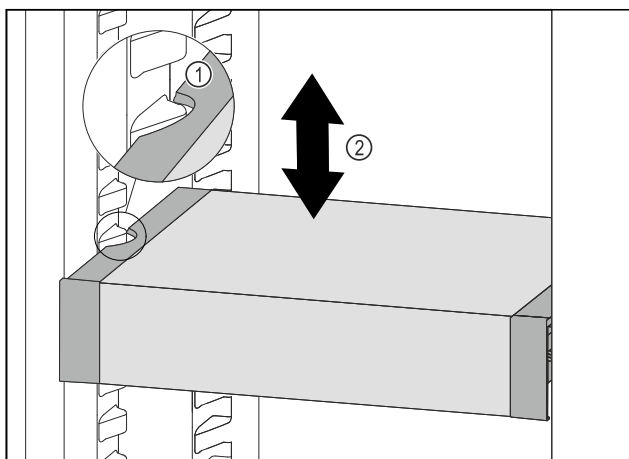

Fig. 130
- Pull VarioSafe forwards until the recesses in the side of the VarioSafe are at the level of the support rib in the refrigerator compartment. Fig. 130 (1)
- Move VarioSafe up or down in the refrigerator compartment until the desired height is reached. Fig. 130 (2)